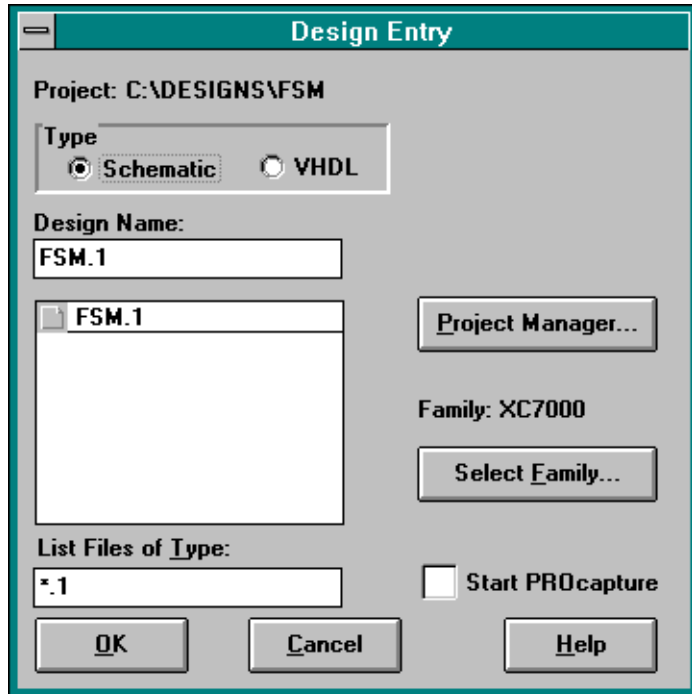

Figure 2-12 Design Entry Dialog Box After Schematic Changes
- Click on the **Synthesis Options** button. The dialog box shown in Figure 2-12 appears: